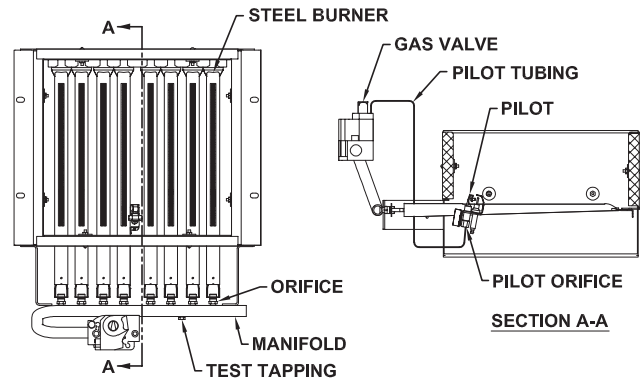

Figure 7.1: Gas Valve, Manifold and Burner Assembly - Intermittent Ignition
14. The gas manifold and control assembly are made of gas-tight, completely factory assembled and installed components of the base assembly. See Figure 7.1.